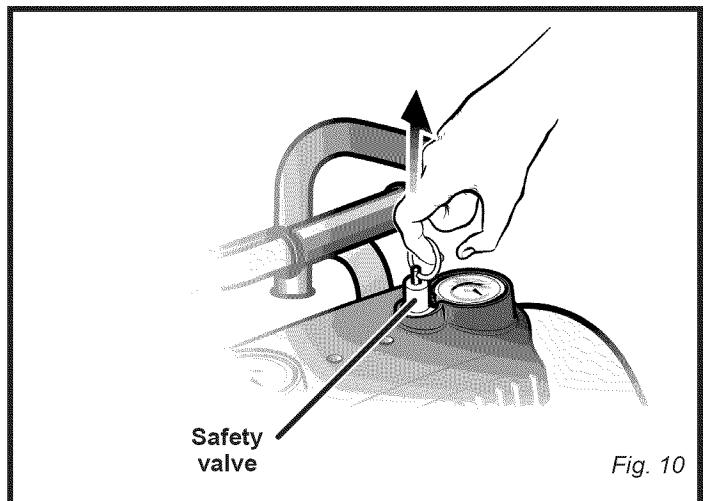

Fig. 10
See figure 10.
- Pull the ring on the safety valve (fig. 10) to release air for twenty seconds.